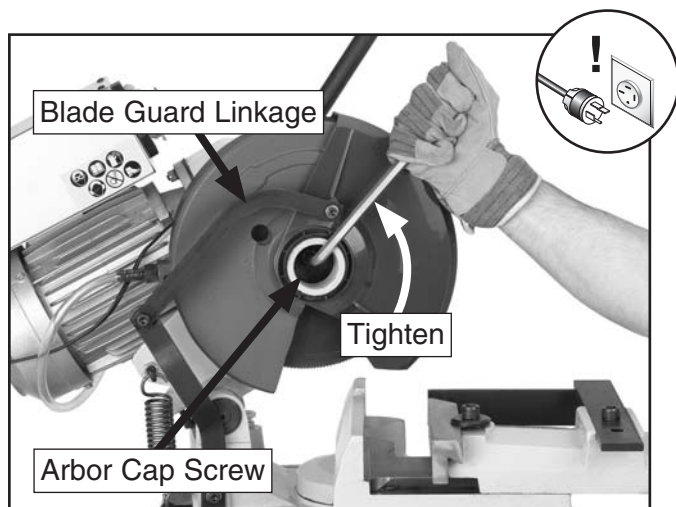

Figure 45. Tightening blade.
7. Place the blade and flange over the arbor, then thread and tighten the left-hand thread arbor cap screw (**Figure 45**).